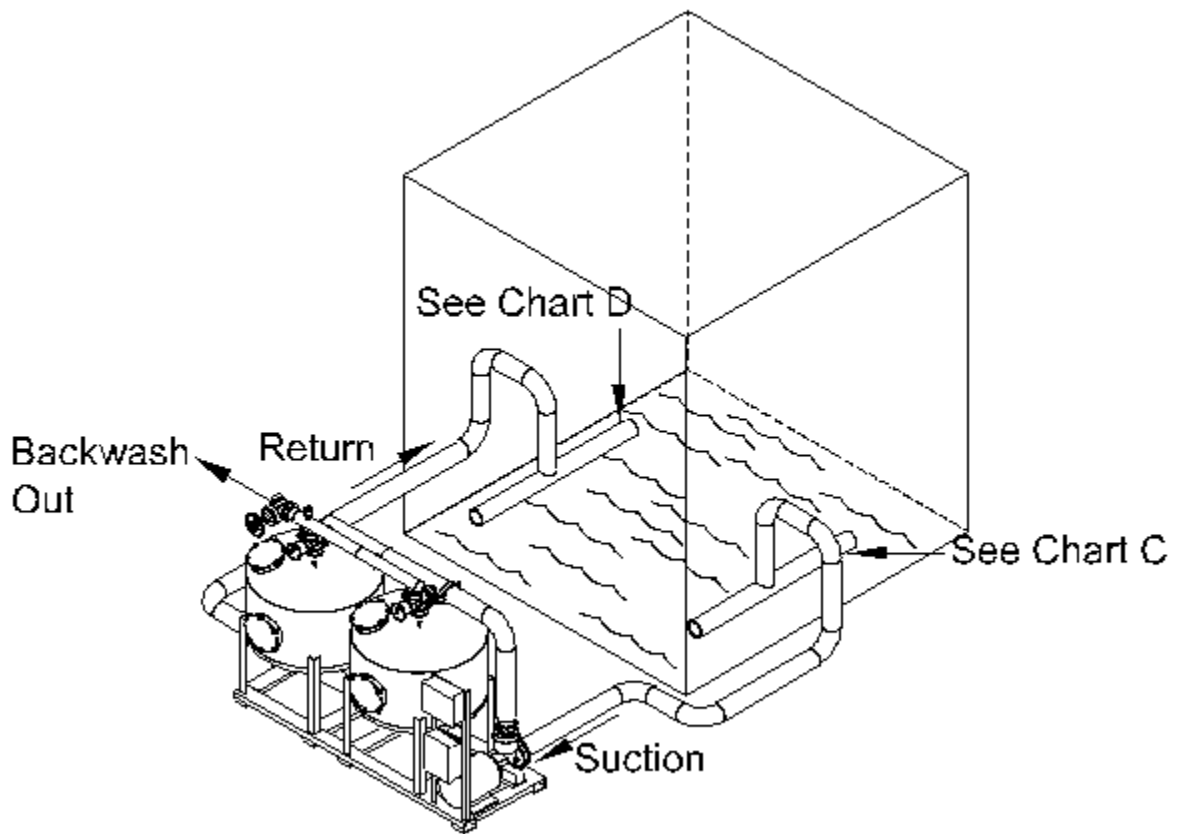

FIGURE 1: TYPICAL PIPING LAYOUT.
**Location of the suction and return piping in the water basin is important.** Care should be taken to insure that the piping follows the natural flow of the system (see figure 1.)